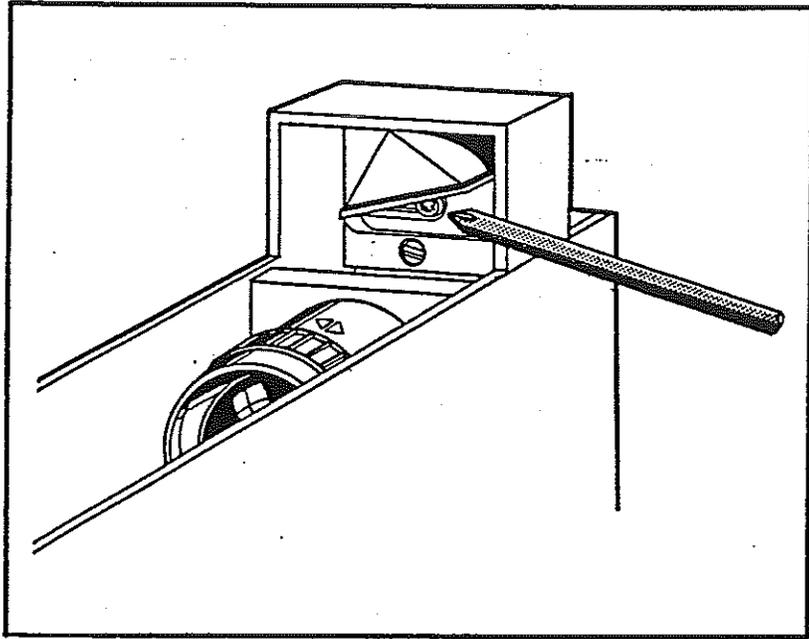

Fig. 23
- (b) The screw securing the prism mounting bracket may be seen when looking from the rear of the camera, beneath the prism (Fig. 23). Loosen this screw, and while looking through the viewfinder, slide the bracket to left or right as required, until the two standard density steps are clearly seen on the left of the view-finder image, contained in a quarter segment of a circle, which must be separate from the image of the projected disc.